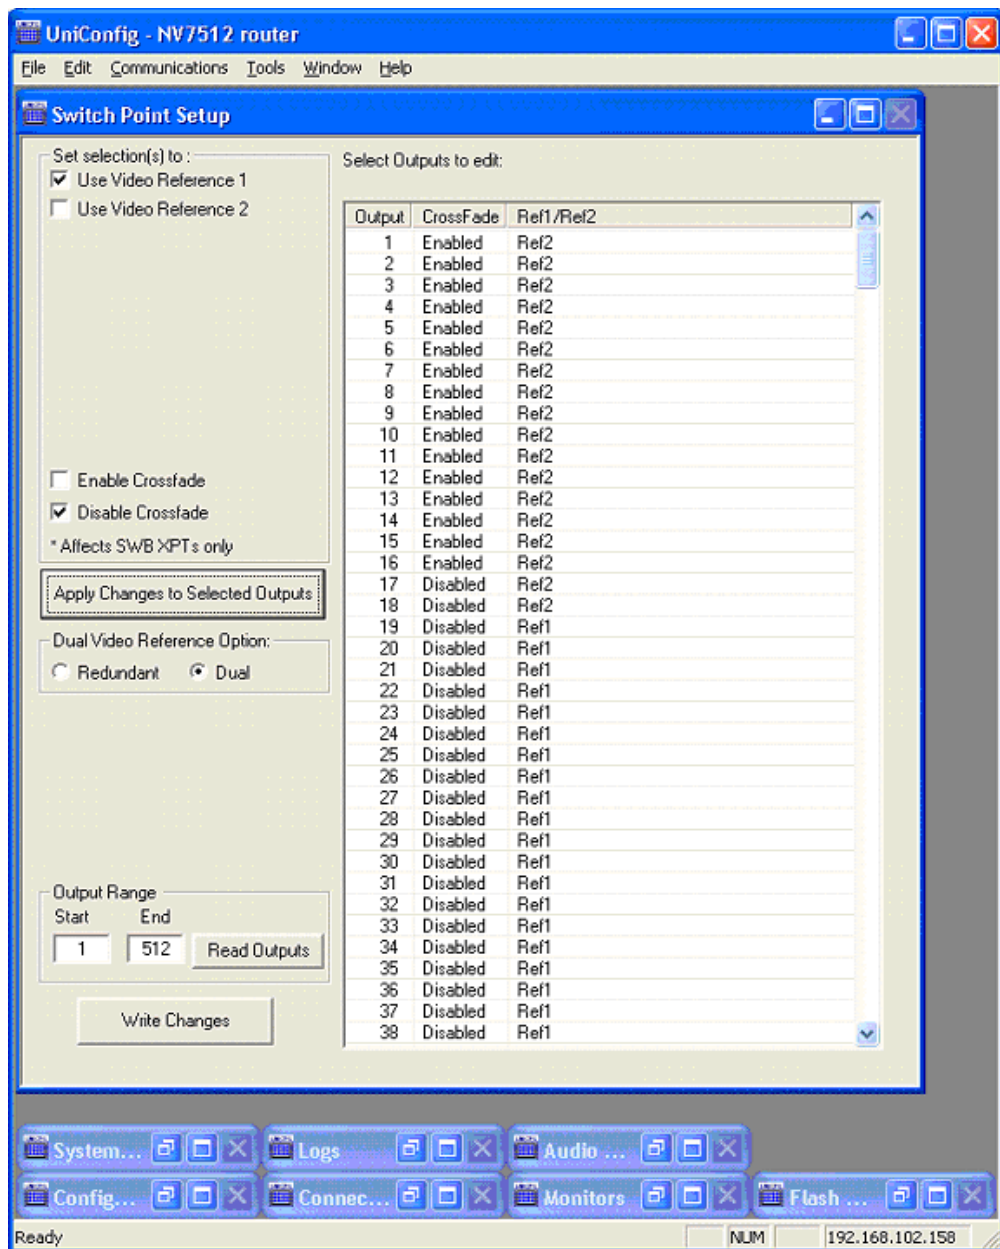

Figure 3-7. Switch Point Setup Window
- From the menu bar, select 'Window > Switch Point Setup'. The 'Switch Point Setup' window appears, as shown in Figure 3-7 on page 83.